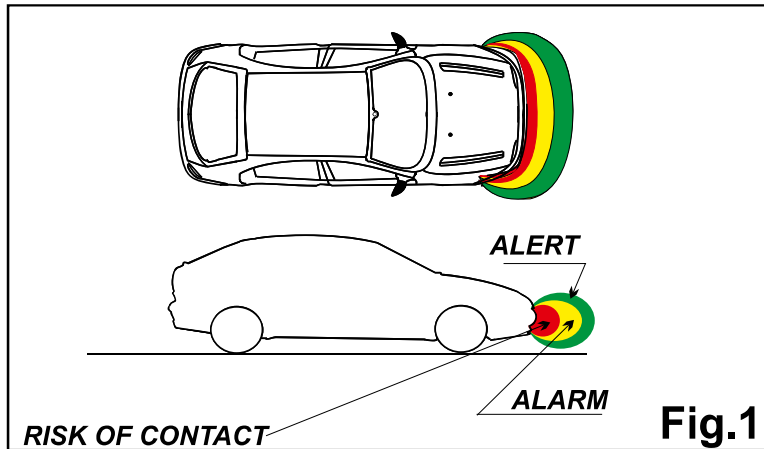

Fig.1
The activation of the device is obtained by pressing the activation button and confirmed by a signal of "OK". Once activated, the EPS-STRIP generates around the bumper, on which is installed, a protection zone (Fig. 1).
- The distances will vary depending on the size of the obstacle and corresponds to the central zone of the bumper; on the lateral edges the distances is less (Fig. 1)